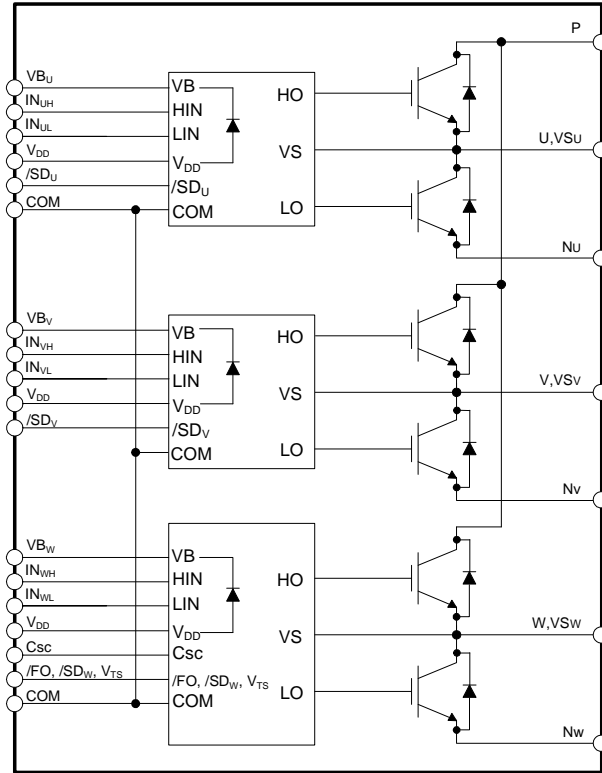

Figure 3. Internal Block Diagram
- 600 V - 5 A IGBT inverter for three phase DC / AC power conversion *(Please refer to Figure 3)*